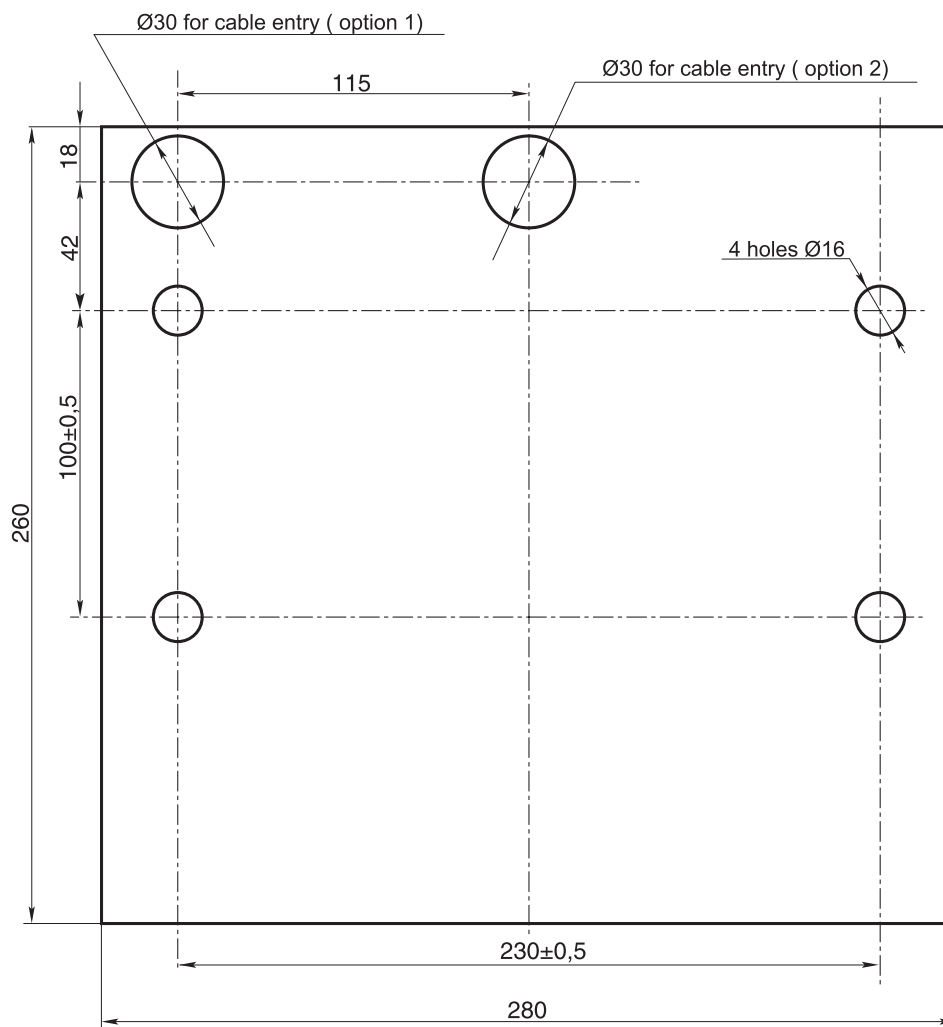

Figure 9 – Anchor bolts position and cable entries for the housing installation
- to mark the mounting holes according to Figure 9;
9.4.2 Make the holes for anchor bolt sleeves for the turnstile housing installation (Fig. 9).
Note! If you lay out cables under the floor surface, make an electric raceway to the cables laying zone of the turnstile housing (option 1 or 2 in Fig.9). Fix the housing after laying the cables in the electric raceway and inside the turnstile housing.